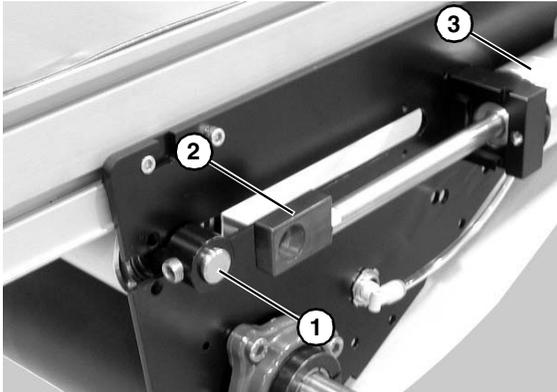

Figure 25
8. Push shaft (Figure 25, item 1) through block (Figure 25, item 2), and slide block towards air cylinder (Figure 25, item 3).